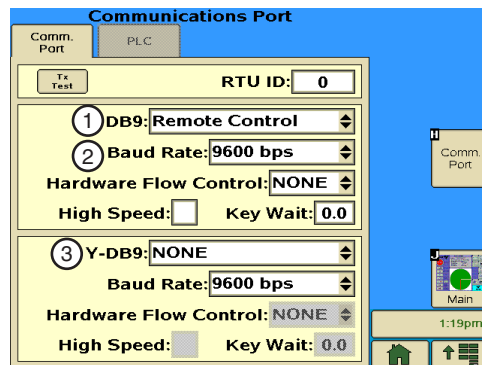

Figure 42-1 1. DB9 Field
1. Select either the **DB9** field or the **Y-DB9** field. Refer to Figure 42-1.